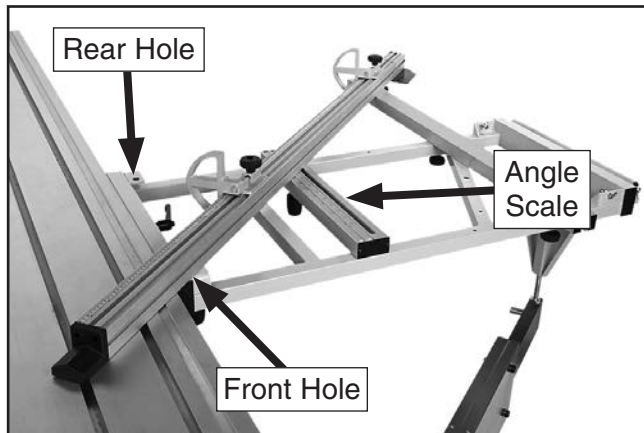
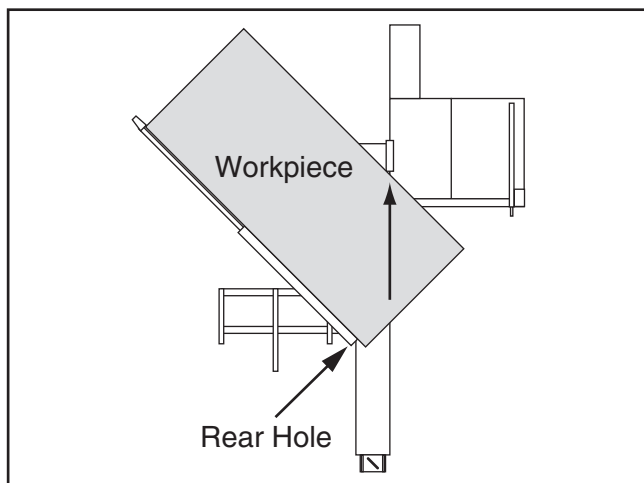

Figure 120. Crosscut fence positioned for miter cut.
Figure 121. Crosscut fence mounted in rear hole for miter cuts from 0° to 45°.
The crosscut fence can be positioned for miter cuts from 0° to 45° (see **Figure 120**) using the front or rear crosscut table holes. The angle scale on top of the crosscut table has a resolution of 1°.
3. Install fence pivot bolt into front or rear holes shown in **Figure 120** to position table for desired angle of cut (see **Figures 121–122**).
8. Load workpiece onto crosscut table. The setup should look similar to **Figures 121–122**.